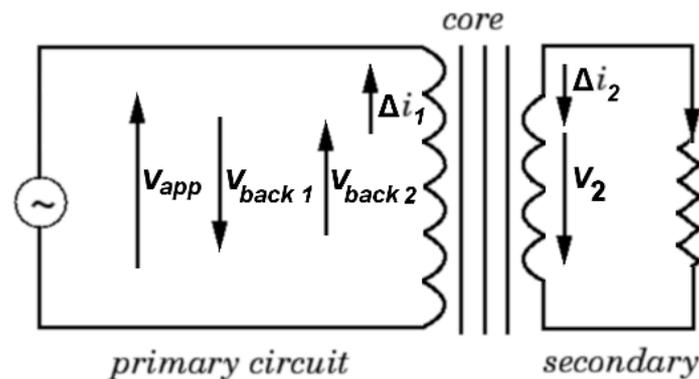

Figure 3.2: Changing current and back EMF in a coil*
3.4) See Fig. 3.2. The change in secondary current Δi_2 ALSO produces an additional change in magnetic field in the core and hence induces *another* back EMF in the primary. Let's call this $v_{back\ 2}$. Since Δi_1 and Δi_2 are of opposite sign, $v_{back\ 1}$ and $v_{back\ 2}$ are ALSO of opposite sign. In other words $v_{back\ 1}$ opposes the direction of v_{app} , but $v_{back\ 2}$ reinforces the direction of v_{app} , or: